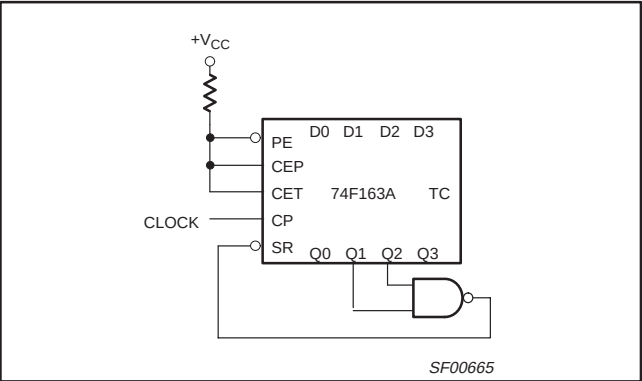
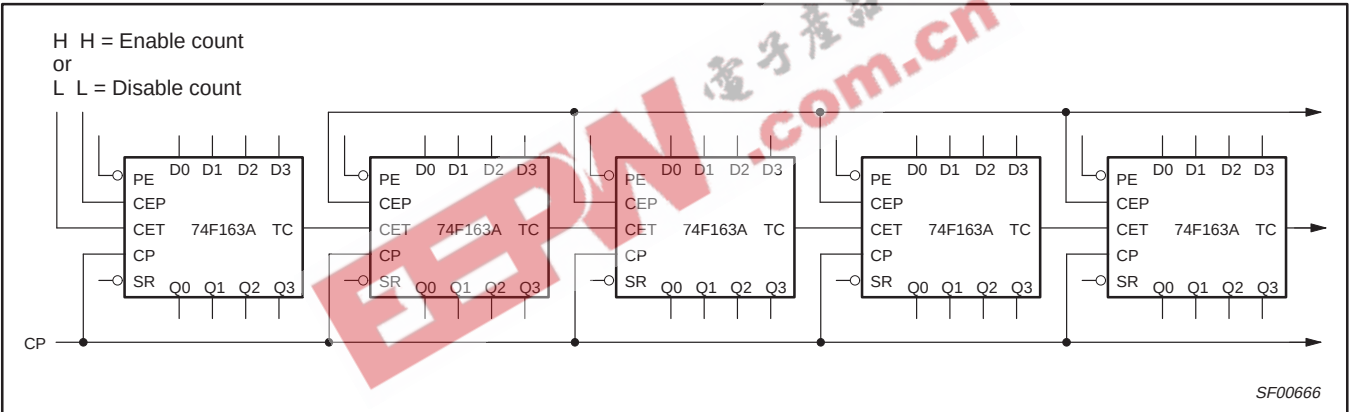

Figure 1. Maximum count modifying scheme
Figure 2. Synchronous multistage counting scheme
A Low level at the Master Reset ($\overline{MR}$) input sets all the four outputs of the flip-flops (Q0 – Q3) in 74F161A to Low levels, regardless of the levels at CP, $\overline{PE}$, CET and CEP inputs (thus providing an asynchronous clear function). For the 74F163A, the clear function is synchronous. A Low level at the Synchronous Reset ($\overline{SR}$) input sets all four outputs of the flip-flops (Q0 – Q3) to Low levels after the next positive-going transition on the clock (CP) input (provided that the setup and hold time requirements for $\overline{SR}$ are met). This action occurs regardless of the levels at $\overline{PE}$, CET, and CEP inputs. The synchronous reset feature enables the designer to modify the maximum count with only one external NAND gate (see Figure 1). The carry look-ahead simplifies serial cascading of the counters. Both Count Enable (CEP and CET) inputs must be High to count. The CET input is fed forward to enable the TC output. The TC output thus enabled will produce a High output pulse of a duration approximately equal to the High level output of Q0. This pulse can be used to enable the next cascaded stage (see Figure 2). The TC output is subjected to decoding spikes due to internal race conditions. Therefore, it is not recommended for use as clock or asynchronous reset for flip-flops, registers, or counters.